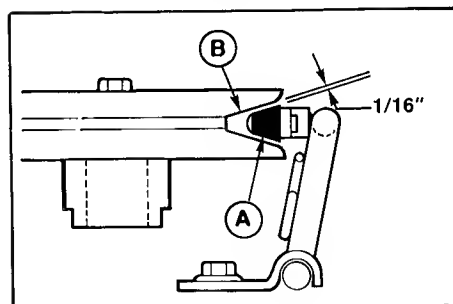

Figure 49.
4. Inspect the brake pad (A, figure 49) to V-pulley (B) clearance. With PTO engaged, clearance should be 1/16 inch as shown in figure 49.